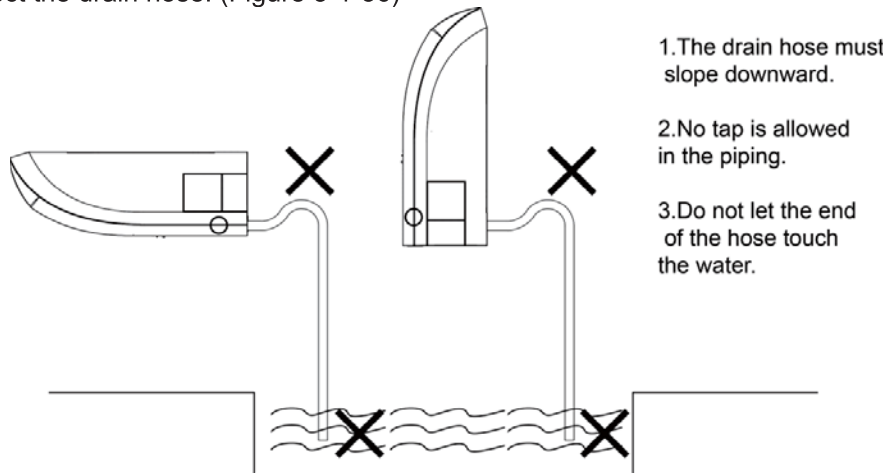

Figure 3-1-56
- (4) Connect the drain hose. (Figure 3-1-56)